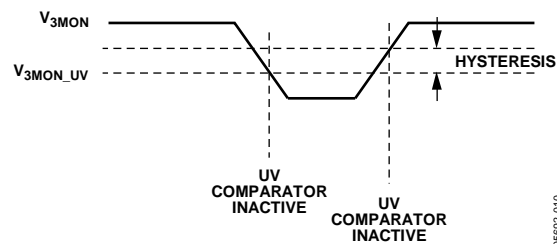
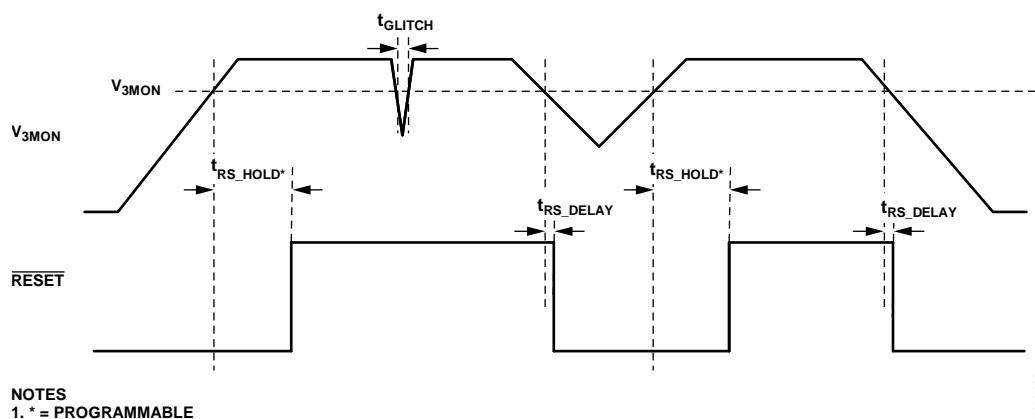

Figure 9. V_{3MON} Hysteresis
Figure 10. V_{3MON} , \overline{RESET} Timing Diagrams
The V_{3MON} pin is monitored by a comparator to detect an undervoltage condition. It is designed with 1.5% hysteresis. When the V_{3MON} input drops below the programmed UV threshold, the comparator becomes active immediately, indicating that a UV condition has occurred. Due to hysteresis, the V_{3MON} input must be brought above the programmed UV threshold by 1.5% before the comparator becomes inactive, indicating that the UV condition has gone away (see Figure 9).
The V_{3MON} and \overline{RESET} timing diagrams are shown in Figure 10. The range of thresholds is shown in Table 6 and the programming code for the selected threshold is found in Table 7. The range of reset hold times is shown in Table 8 and the programming code of the selected timing is found in Table 9.
- When the external monitoring processor cannot issue the necessary WDI signal and advanced WDI mode is selected (see Figure 10 and Figure 9)
- When $V_{3\text{MON}}$ drops below the threshold (see Figure 10)